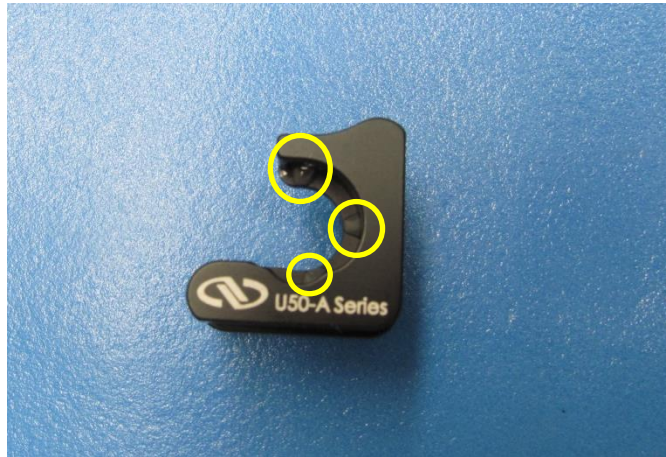

Figure 2-29: Location of 2216 on Mount
8. Apply 2216 epoxy to the mount as shown in **Figure 2-29**.